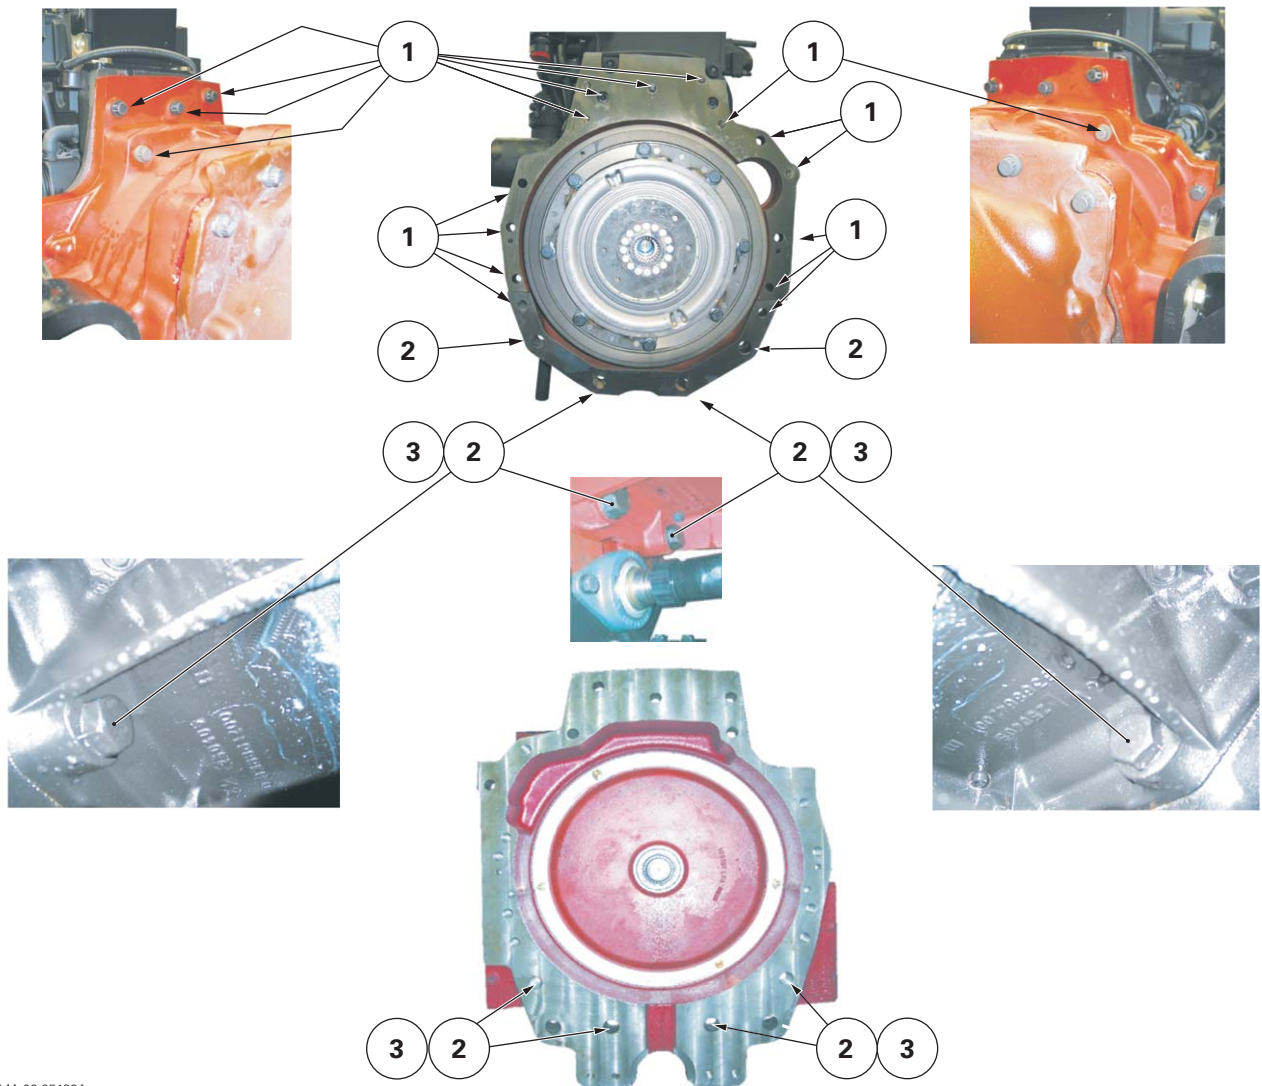

Fig. 10
27. Release the screws and nuts attaching the engine to the gearbox (Fig. 10).
Dimensions of the screws and nuts (Fig. 10)
Fit the screws and nuts as marked during removal (Fig. 10). Tighten them to a torque of: